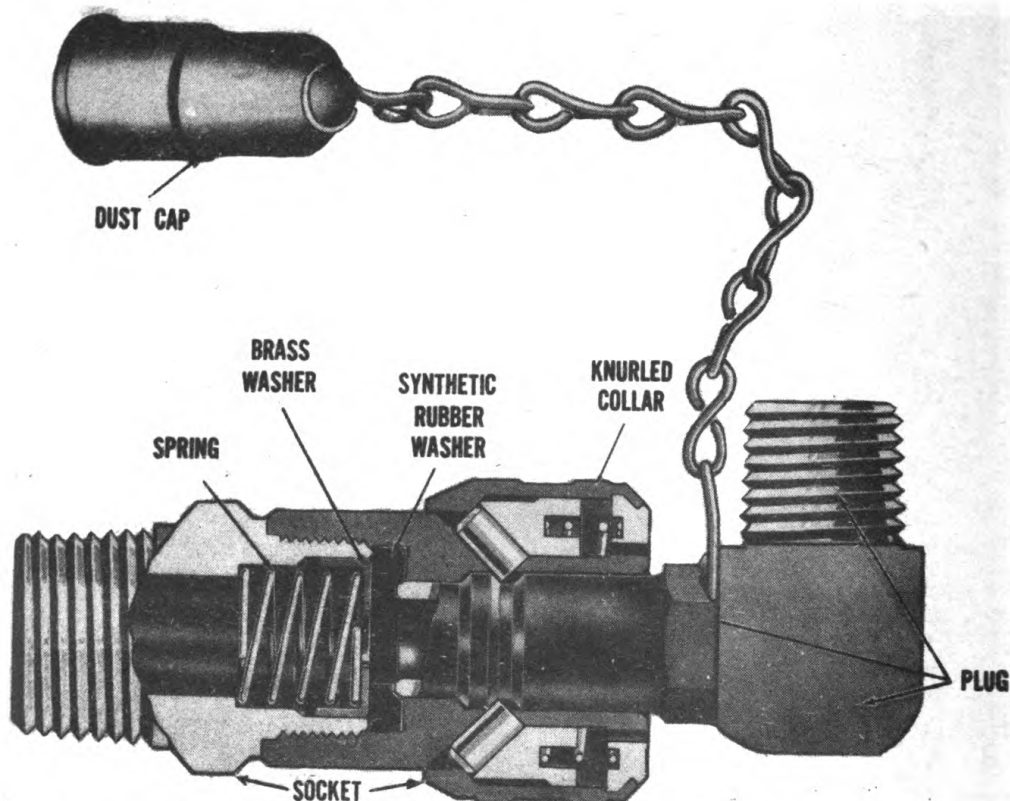

FIGURE 35.8. (Added.) Cutaway view of socket and plug. Disassembly is permitted only as directed in paragraph 66.1.
- 6 Springs, R81-1-922 (for socket). (See fig. 35.8.)
- 6 Washers, backing, R81-1-924 (brass washer for socket). (See fig. 35.8.)
- 12 Washers, R81-1-923 (synthetic rubber washer for socket). (See fig. 35.8.)
(1) *Worn washer.* Replace synthetic rubber washer by disassembling socket (fig. 35.8), prying out washer, placing new washer in position, and reassembling socket.